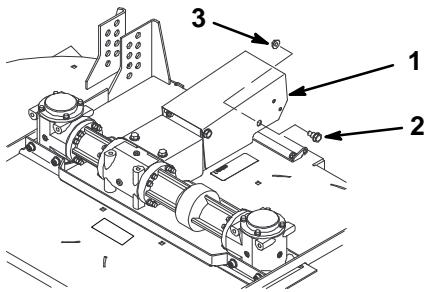

Figure 16
4. Secure PTO cover down with 5/16–18 x 7/8" (11 mm) shoulder bolt and 5/16" flange nut (Fig. 16).